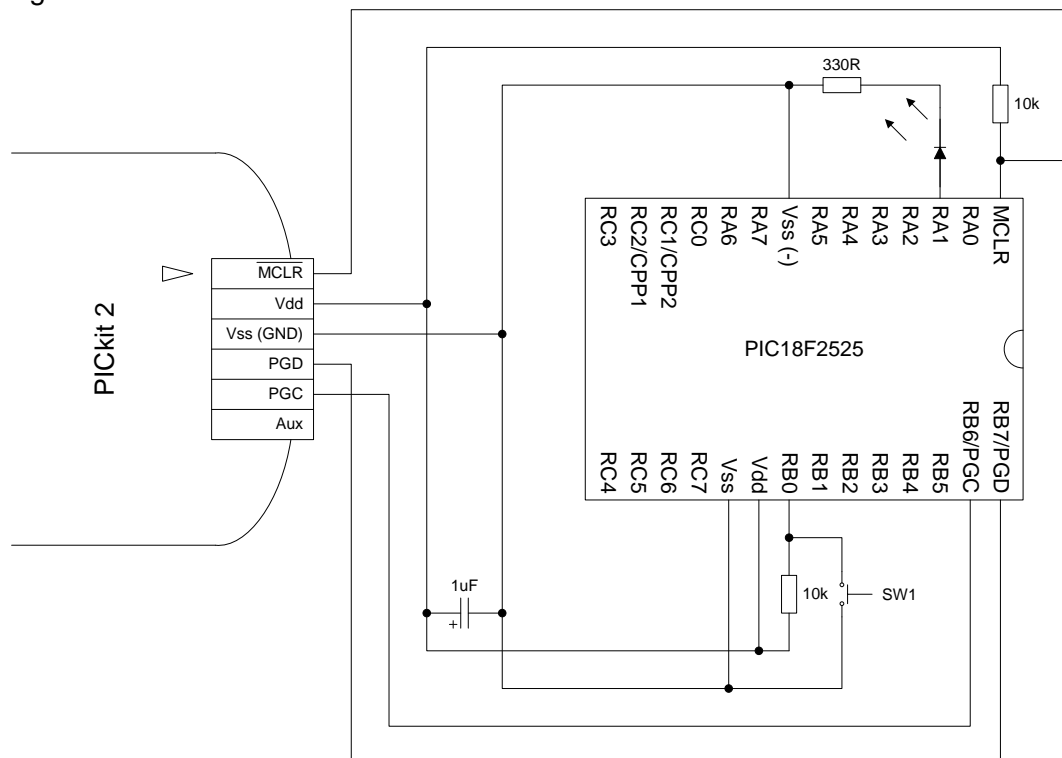

Figure 2 - PIC, programmer, and LED
The circuit in Figure 2 can be used to power up the PIC and demonstrate a simple program.
- Check that the LED and SW1 are wired up correctly as per figure 2